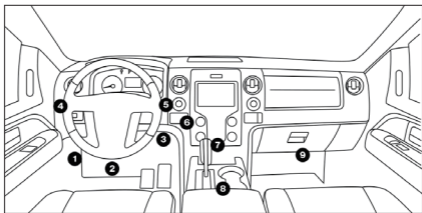

Figure 3.1.2
- Most of the vehicle's DLCs are located in one of the positions labeled in Figure 3.1.2. Some DLCs have a plastic cover that needs to be removed before connecting and some are hidden nearby the fuse panel. If you encounter a problem locating the DLC, please